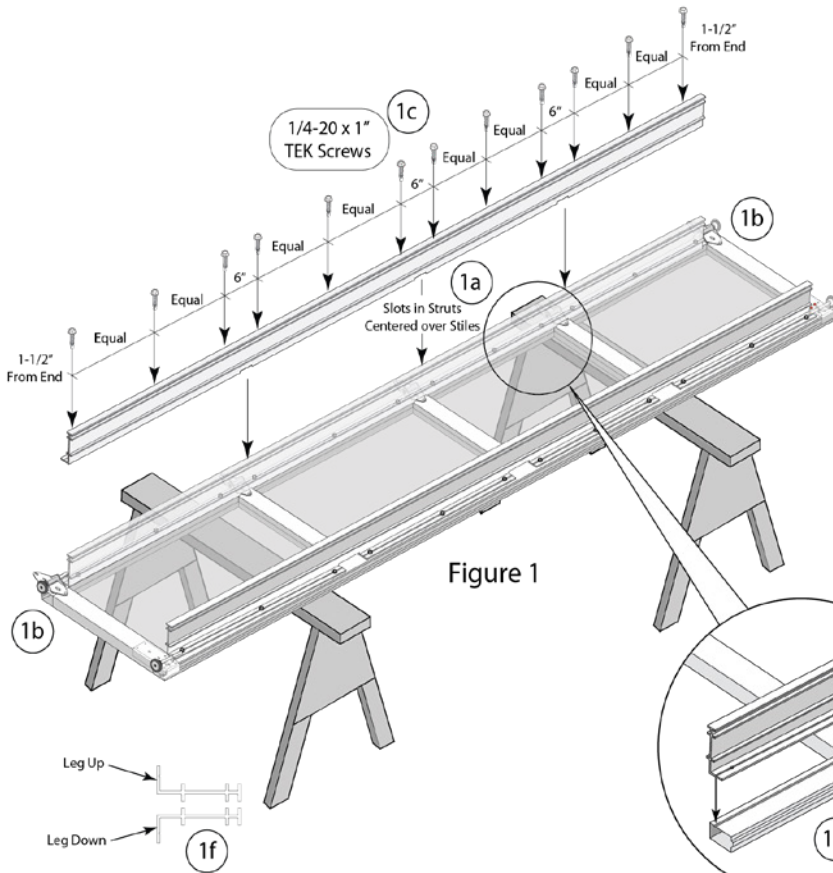

Figure 1
Step 1: Place the bottom section on a pair of padded saw horses (Figure 1).